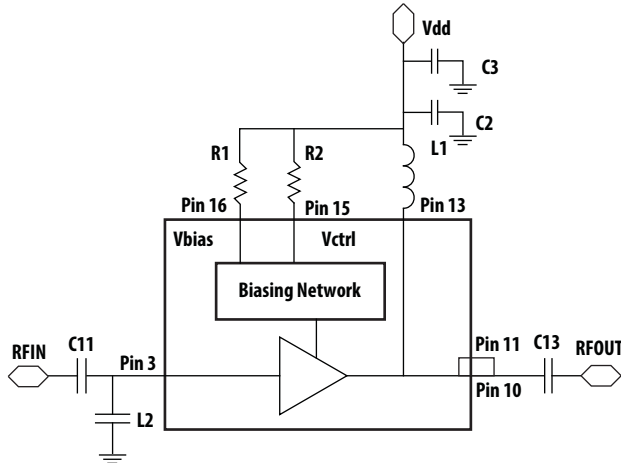

Figure 46. Application Circuit Diagram
1. Vbias and Vctrl can be externally controlled by change external biasing resistors $R1 = R_{bias}$ and $R2 = R_{ctrl}$ (as shown in Fig. 46).
1. V_{bias} and V_{ctrl} can be externally controlled by change external biasing resistors $R1 = R_{bias}$ and $R2 = R_{ctrl}$ (as shown in Fig. 46).